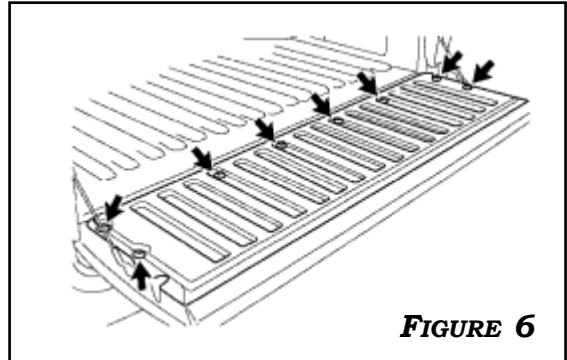

FIGURE 6
6. USE A **T30** TORX SOCKET TO RELEASE 8 SCREWS AND REMOVE THE TAILGATE SERVICE HOLE COVER. **FIGURE 6**